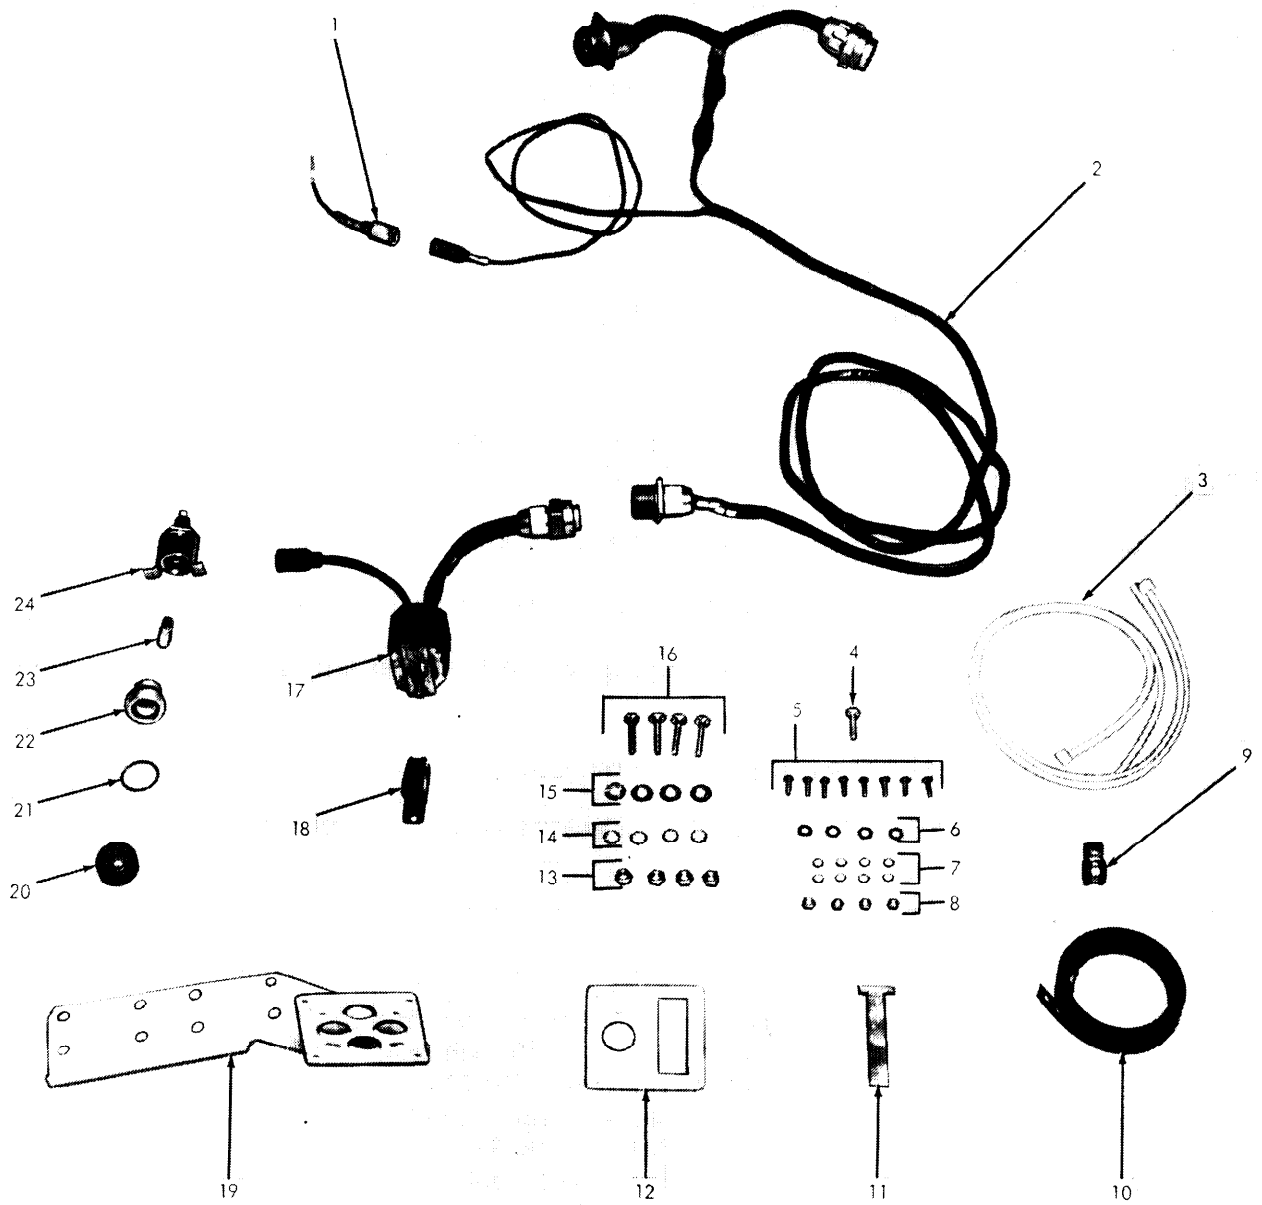

Figure 2. Vehicle Smoke Generator Switch Modification Kit 12290438
(1) Kits - There are two basic kits used in the installation of the Vehicle Engine Exhaust Smoke System (VEESS). Teledyne Continental Motors Kit P/N 12275734 (figure 1) is used for the engine portion and General Dynamics Kit p/N 12290438 (figure 2) is used for the hull wiring portion of the modification.
(2) Powerpack Removal - The powerpack must be removed to perform this modification.
a. Kits/Parts Required to Accomplish Modification. The following engine kit 12275734 (figure 1) and hull wiring kit 12290438 (figure 2) are required to accomplish the modification. Check kits for completeness before starting the job.